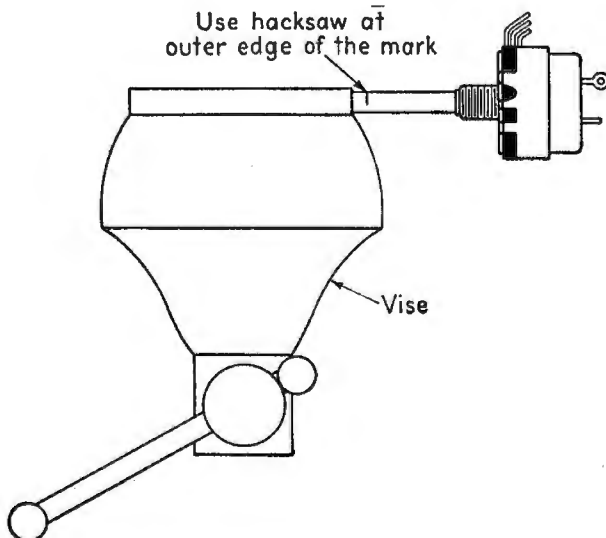

FIG. 11-12.—Cutting the volume-control shaft to size.
- b. Clamp excess portion in vise with mark showing and cut to the mark with a hack saw, as shown in Fig. 11-12.